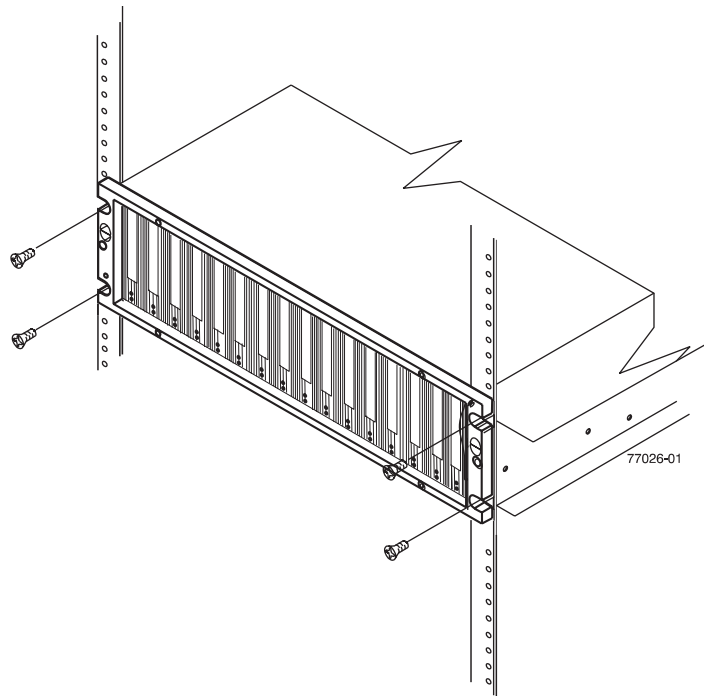

Figure 13. Securing the storage expansion enclosure to the rack
4. Secure the storage expansion enclosure. Figure 13 on page 30 shows how to secure the storage expansion enclosure to the rack.
- c. Secure the front of the storage expansion enclosure using the four M5 screws as shown in Figure 13 on page 30.